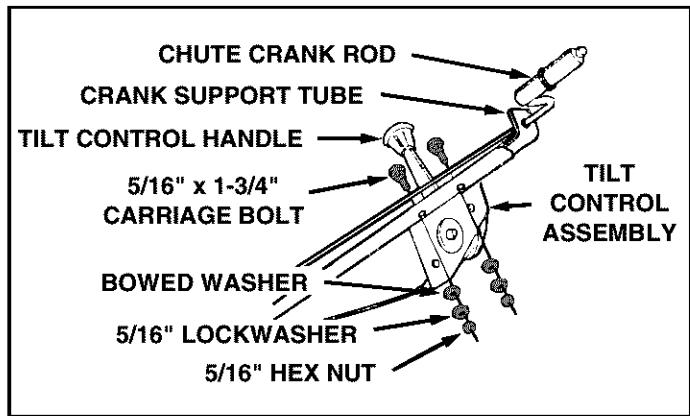

FIGURE 18
- Attach the chute tilt control assembly to the top side of the crank support tube using two 5/16" x 1-3/4" carriage bolts, bowed washers, 5/16" lock washers and 5/16" hex nuts. See figure 18.